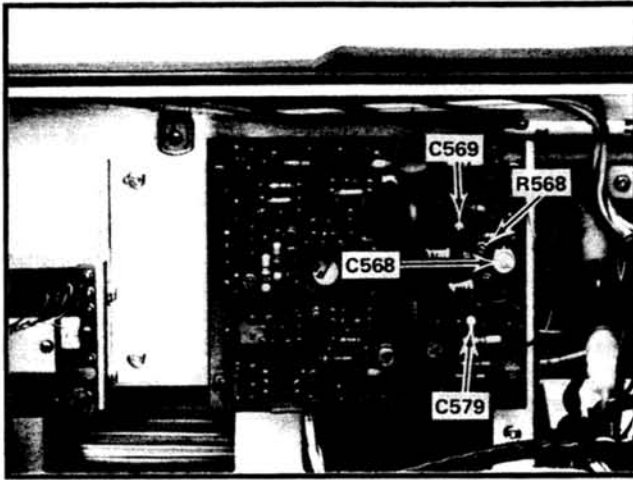

Fig. 5-20. Location of C569, C579, C568, and R568.
21. Check/Adjust High Frequency Timing ①
h. Observe the setting of adjustable capacitors C569 and C579 (see Fig. 5-20). Nominal setting for them is equal adjustment at or near minimum capacity (turned out).
n. ADJUST—C568 (see Fig. 5-20) to adjust timing to the same timing error observed at $.05 \mu\text{s}/\text{div}$ with X1 magnifier.
q. ADJUST—R568 (see Fig. 5-20) to adjust timing to the same timing error observed at $.02 \mu\text{s}/\text{div}$ with X1 magnifier.